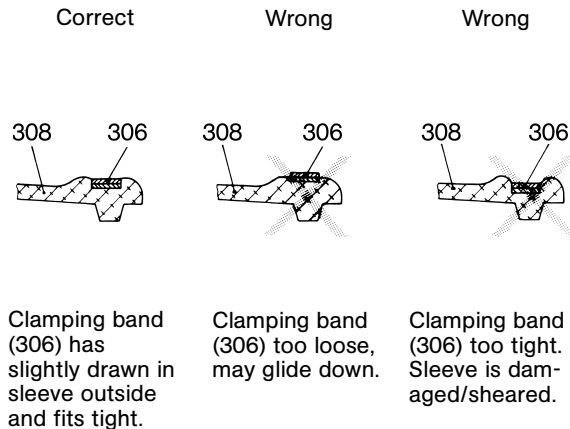

Figure 10: Clamping of clamping bands.
**Note:** Proper clamping of the clamping bands (306) is shown in Figure 10.